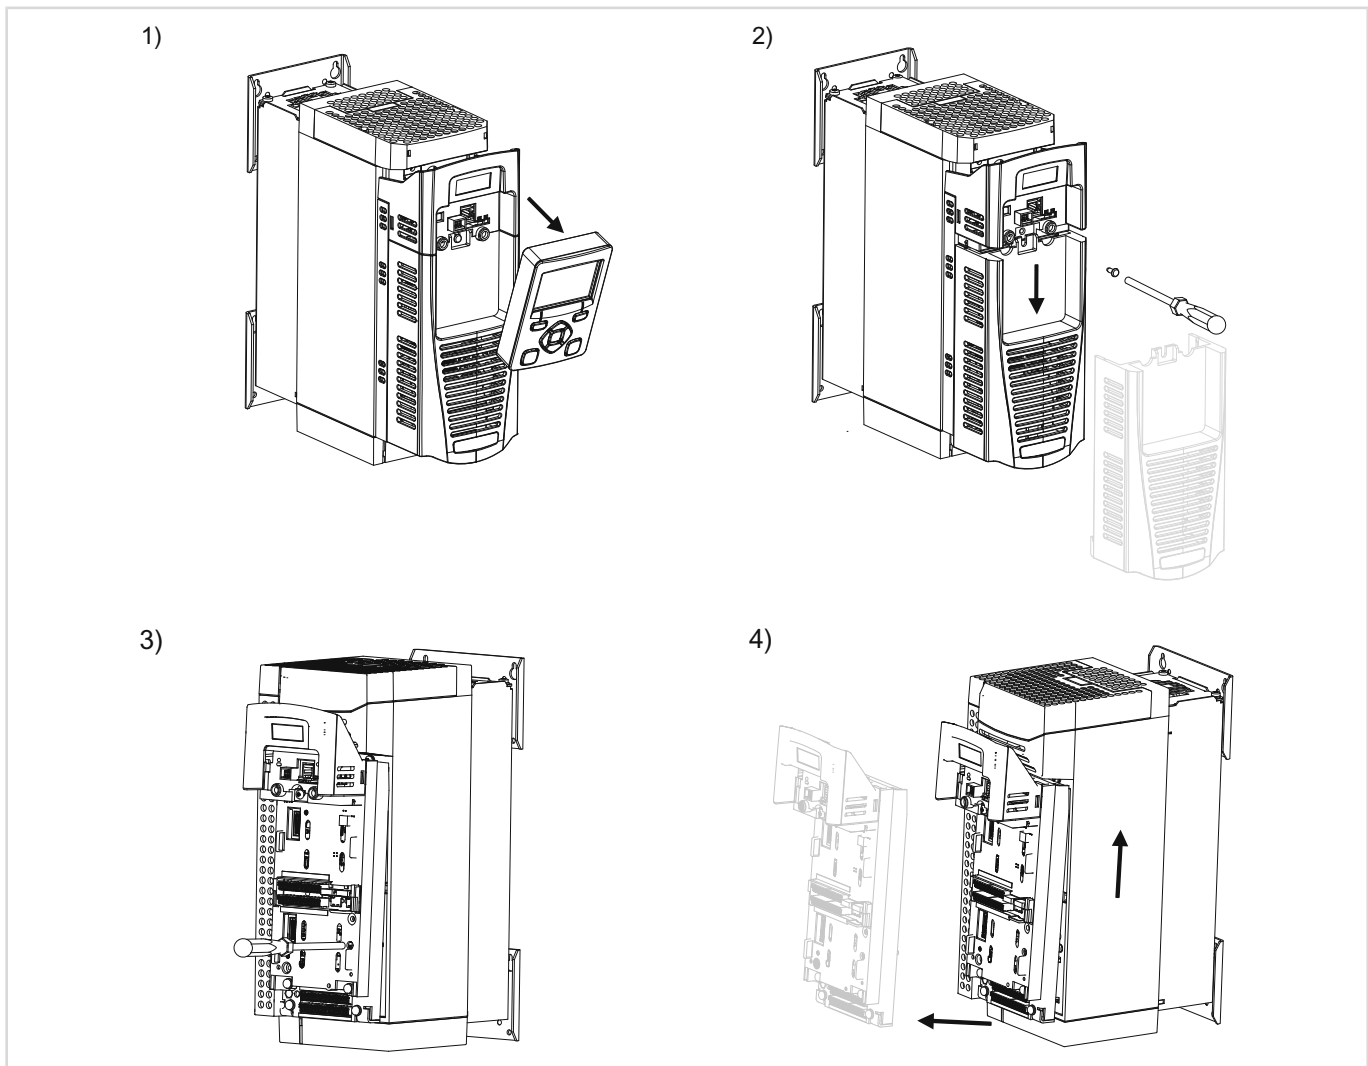
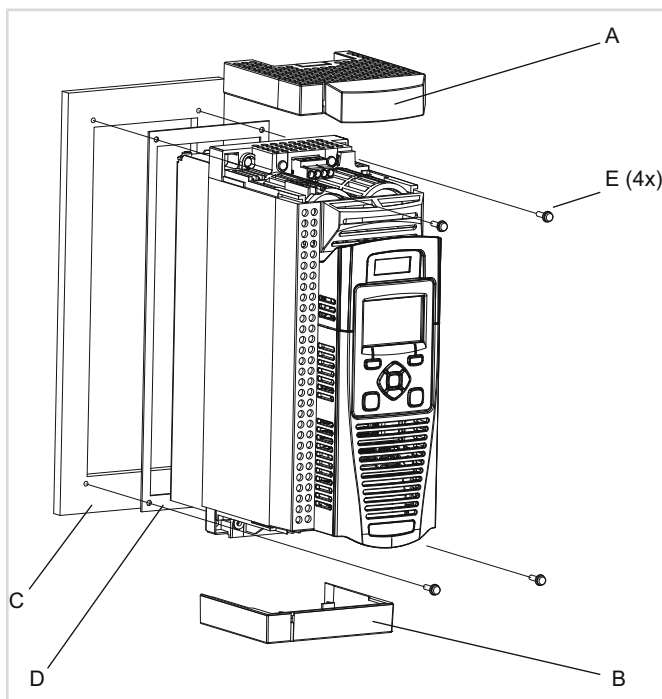

Fig. 7: Dismounting the control module
Fig. 8: Detailed view of the through-switch cabinet mounting (example FDU)
Graphical explanations, see figure 7, page 46 and see figure 8, page 47.
To allow the upper housing cover to be slid forwards and dismounted, with these types the control device must be dismounted (see figure 7, page 46).
Dismounting the control module (see figure 7, page 46):
With these types, the control module does not need to be dismounted, in order to take off the housing cover (see figure 8, page 47).
- Introduce the screwdriver into the slot of the lower housing cover (B) and press it slightly towards the left. This will open the lock.
- In the accessories kit: Place the delivered gasket (D) around the frequency inverter in such a way that the free space between the switch cabinet wall (C) and the FI is sealed airtight.
- Mount the VARIPACK frequency inverter to the switch cabinet wall using 4 fixing screws (E) (see figure 8, page 47).